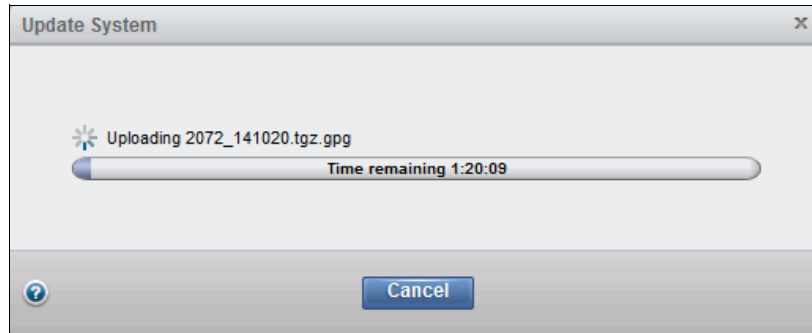

Figure 11-28 Software upload
7. The test utility and node canister software is then uploaded to the system, as shown in Figure 11-28.